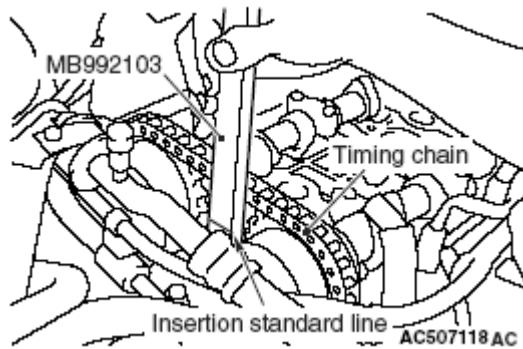

Fig. 31: Inserting Special Tool MB992103 Inside Timing Chain Case Assembly Along Tension Side Of Timing Chain
2. With the timing chain tensioner unlocked, insert special tool MB992103 inside the timing chain case assembly along the tension side of the timing chain until the insertion guide line aligns with the upper surface of the timing chain case assembly (**Fig. 31**).